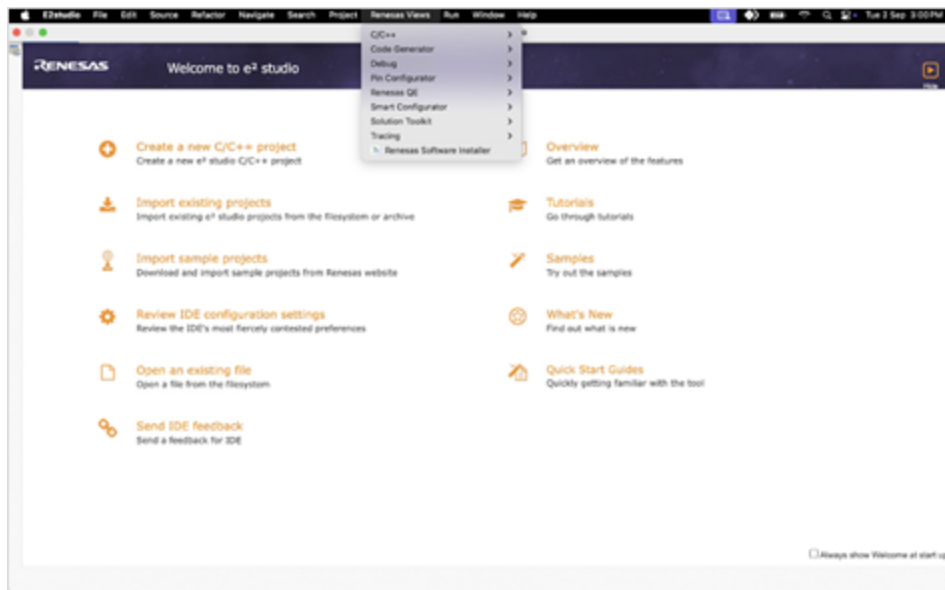

Figure 82. Renesas Views > Renesas Software Installer
12. Install Renesas QE using **Renesas Views > Renesas Software Installer**, Figure 82.